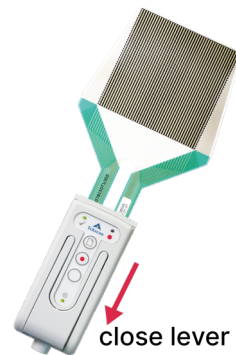

Fig. 10: Closing lug
Position the specified compression element (Fig. 10/1) on the measuring surface of the CBSF force sensor.
- 2 ▶** Place the measuring surface of the pressure sensor (Fig. 10/2) on the compression element.